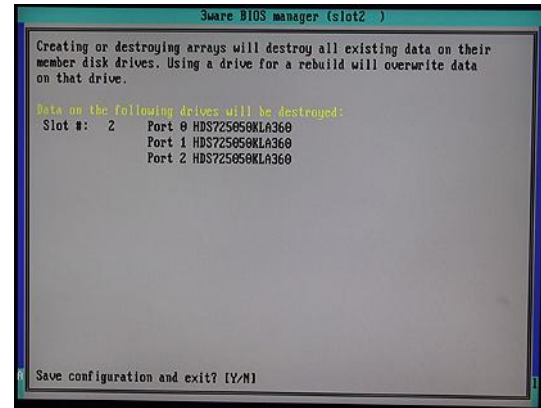

Figure 3-56
- 19) You will be presented with a warning screen as shown in Figure 3-56. Before you do anything else, ensure that the bootable recovery DVD supplied in the accessory pack is in the system's CD/DVD drive. In the case of a multiple DVD image, ensure Disk #1 is in the drive. Then press the Y (yes) key in order to establish your array, exit the 3ware BIOS setup utility, and automatically reboot the machine.